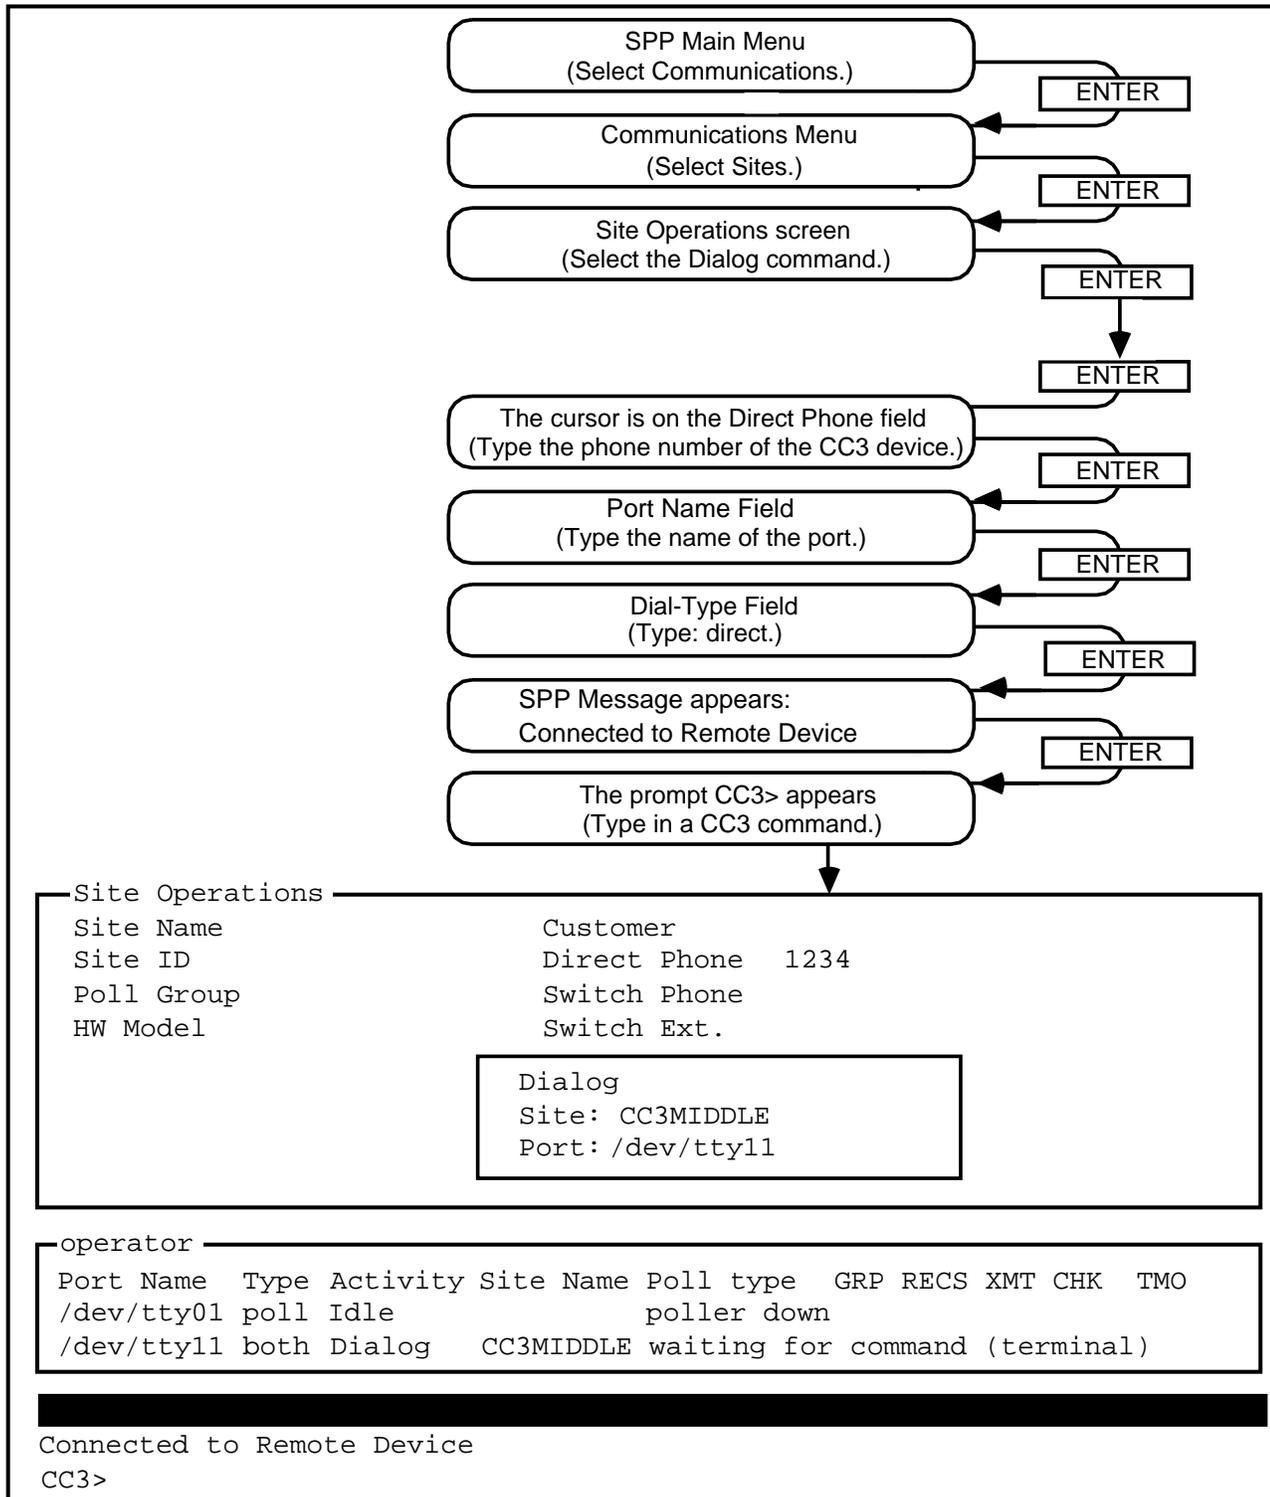

Fig. 5-5
5.06 In cases where the port type is defined as either poller (P) or both (B), it is possible to dialog with a CC3 device that has been installed in the field, but which has not been configured. To dialog with a CC3 device that has not been configured (see Fig. 5-5), proceed as follows: